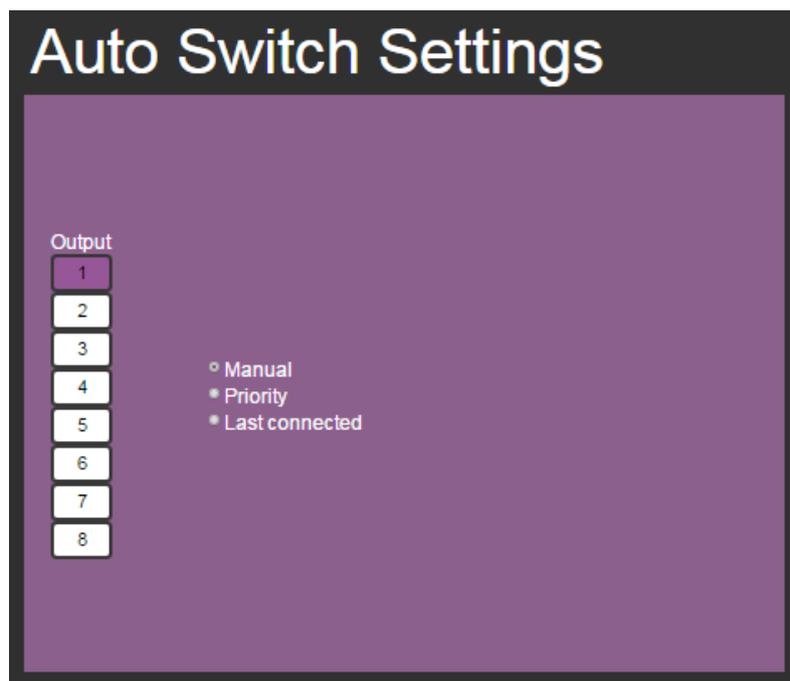

Figure 51: Auto Switch Settings Page
- In the Manual mode (see Figure 51), the outputs are switched manually to the selected output.